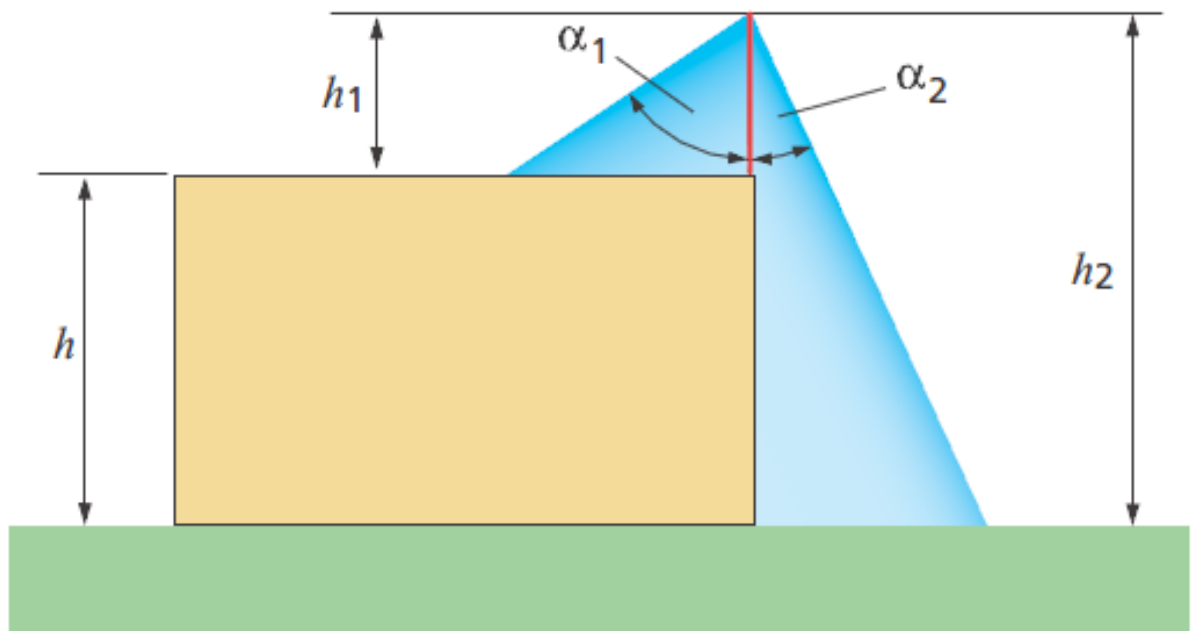

Figure 4
1. Protection angle method (Figure 4 & 5)